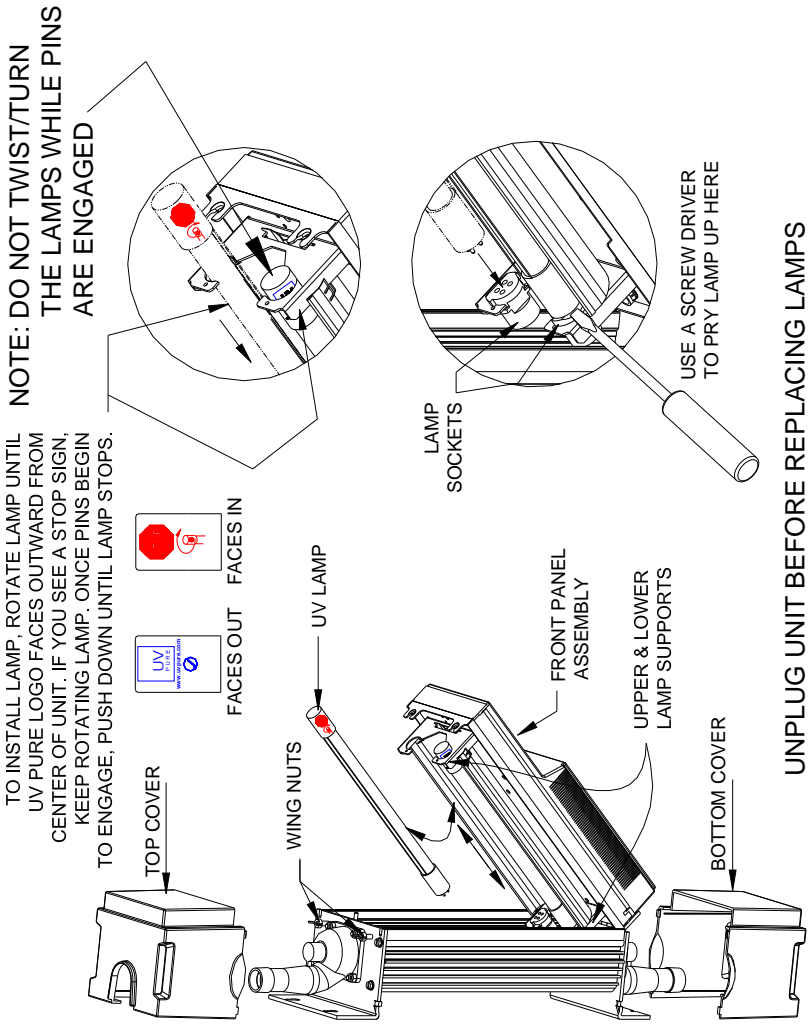

Figure 3
The lamps can be easily replaced in minutes. Draining the system or removing it from the wall is not required. See Figure 3.
your skin on contact. Allow lamps to cool for five minutes before removing them. Slowly lift the old lamps out of the system. **Do not twist the lamps as they are being removed.** To help remove the lamps, insert a flat bladed screwdriver between the lamp base and its socket and lightly pry the lamps upward (see Figure 3). Dispose of the old lamps in the same way you would dispose of ordinary fluorescent lamps. Note that old lamps should be disposed of at a household waste management depot or transfer station; contact your local recycling and waste management authority for proper disposal procedures.
Step 3: Install the new lamps into the unit, being careful not to touch the bulb. **Ensure that the lamps are aligned with the “Stop Sign” printed on the top ceramic facing inward (towards quartz sleeve). If you can see the stop sign, the lamps are backward (See Figure 3).**